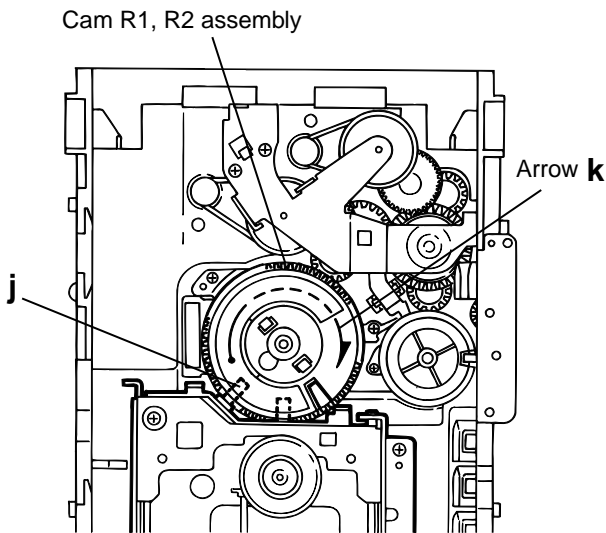

Fig.11
### ■ Removing the CD traverse mechanism (See Fig.11 and 12)
1. For dismantling only the CD traverse mechanism without removing the CD loading mechanism assembly, align the shaft "j" of the CD loading mechanism assembly to the position shown Fig.11 while turning the cam R1 and R2 assembly in the arrow direction "k".